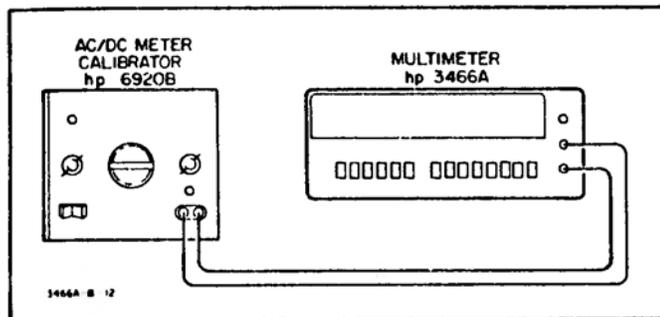

Figure 4-6. AC Ammeter Accuracy Test (200mA and 2000mA Ranges)
2. Connect the Meter Calibrator to the 3466A as shown in Figure 4-6.